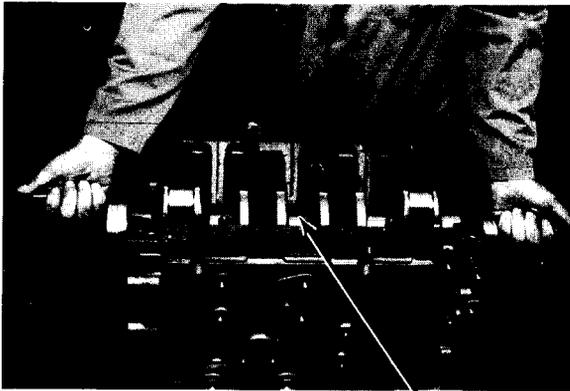

Figure 6-8 5
4. Install crankshaft (5, Figure 6-8).